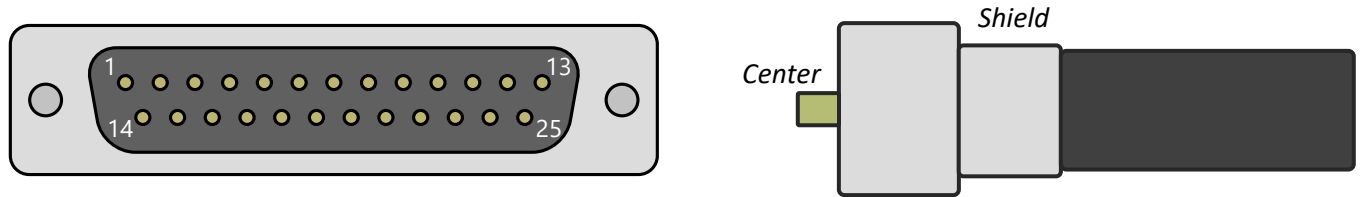
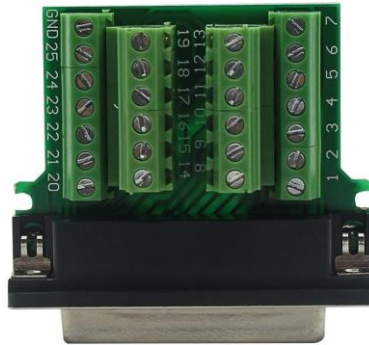

Figure 5: Male DB25 connector pin layout and Coaxial Cable Connector
Figure 6: Male DB25 field splice connector pin layout
**Step 2:** Hold it so you are looking at the pins with them pointing at you or open the back shell of the DB25 field splice. Orient the connector so the row with 13 pins is on top, now the upper left-hand pin is pin 1. See figure 5 (above) for reference. You may also open the case of the connector if using a screw terminal style connector and reference the pin number marking on the PCB (see figure 6 above).